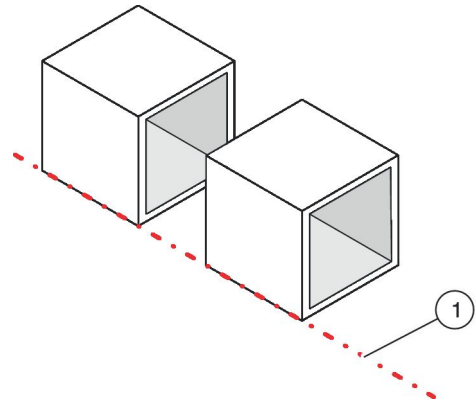

Fig. 14: Aligning AHU casing units
3. ▶ Align the AHU casing units so that they are flush with one another ( Fig. 14 /1).